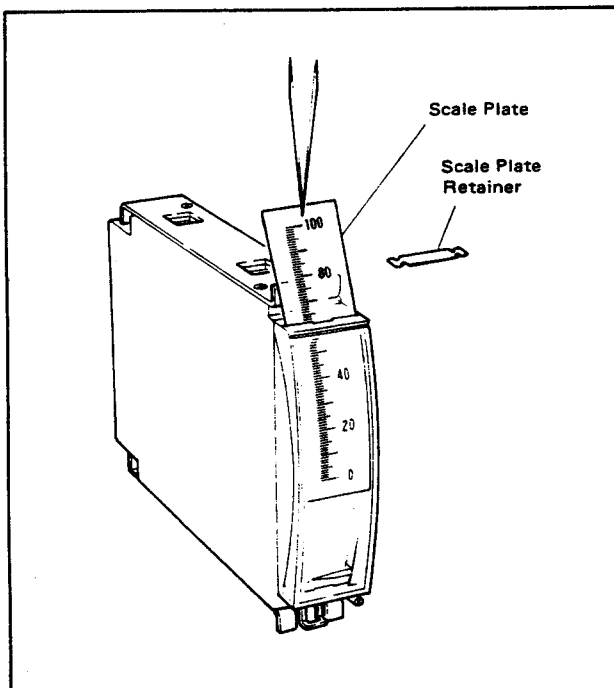

Figure. 6-3. Replacing the Scale Plate.
- (2) Remove the scale plate retainer, and pull out the scale with a pair of tweezers. (See Figure 6-3.)
- (3) Insert a new scale plate and install the scale plate retainer and bezel by reversing the removal procedure.